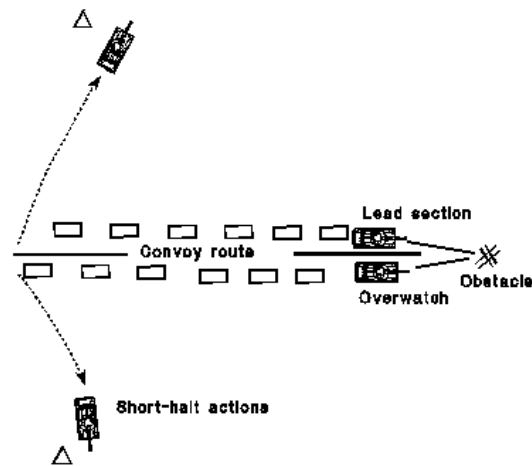

Figure 5-10. Convoy escort overwatches an obstacle.
- o The lead element identifies the obstacle and directs the convoy to make a short halt and establish security. The convoy escort overwatches the obstacle (see Figure 5-10) and requests that the breach force move forward.